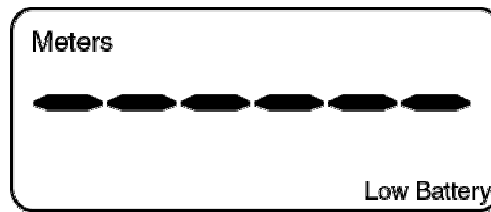

Figure 9
The MicrOTDR Optical Fault Locator requires no periodic maintenance other than cleaning the optical connector port, and replacing the batteries. Battery life is approximately 13,000 operations. The MicrOTDR will display the **Low Battery** annunciator as shown in Figure 9 below when the batteries require replacement. The battery compartment, located on the back of the unit, holds four (4) AA Alkaline batteries. Four Phillips screws hold the battery compartment cover in place.